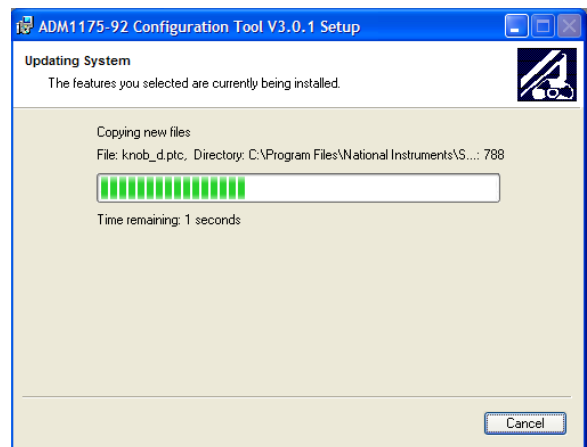

Figure 7. Installation in Progress
6. This step of the installation gives you the choice to reenter the installation information, to cancel out of the installation altogether, or to begin the installation. To continue with the installation, click **Next**. The installation begins (see Figure 7).